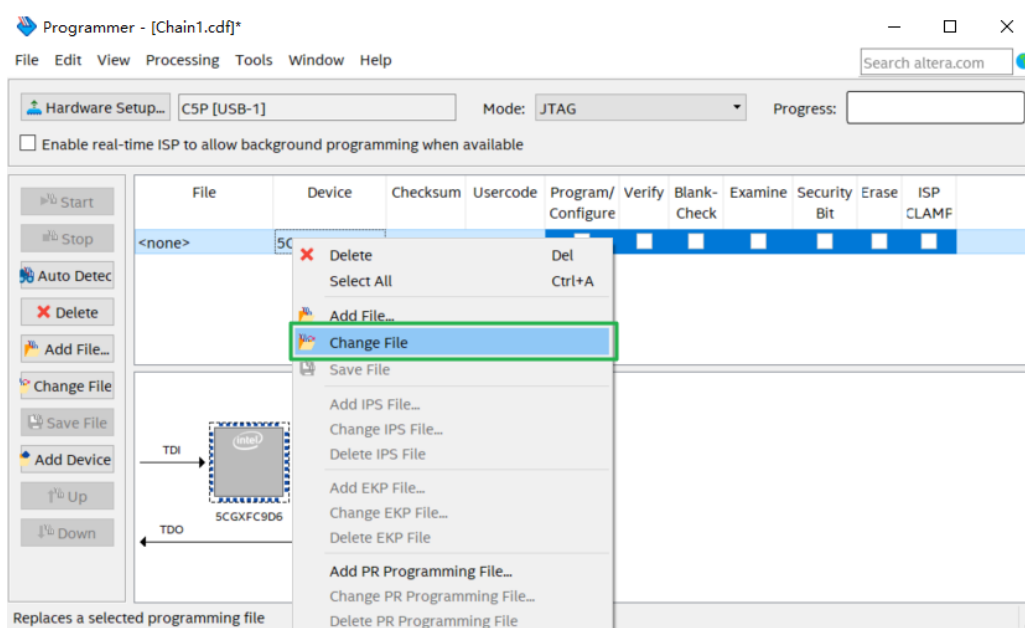

Figure 3-5 Open the .sof file to be programmed into the FPGA device
- Right click on the FPGA device and select Change File to open the .sof file to be programmed, as highlighted in **Figure 3-5**.